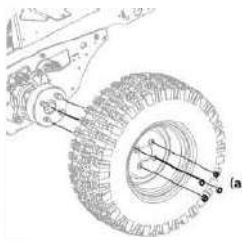

Figure 4-14
1. Remove the four lug nuts (a) to remove the tire. See Figure 4-14.
2. Reinstall the tires using the four lug nuts. See Figure 4-14. Torque the lug nuts (a) to 65-70 ft-lbs.